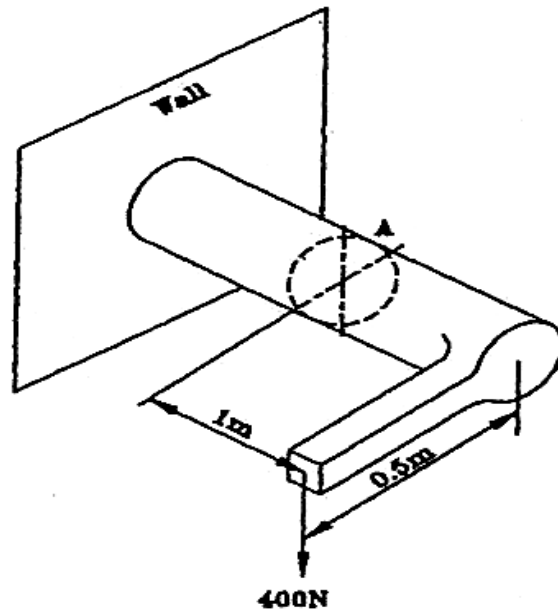

Fig. 7
8. (a) A 100 mm diameter bar with a built in bracket is fixed to the wall and loaded as shown in Fig. 7. Determine the principal stresses at the top extremity of the vertical diameter for the section marked A. [7]